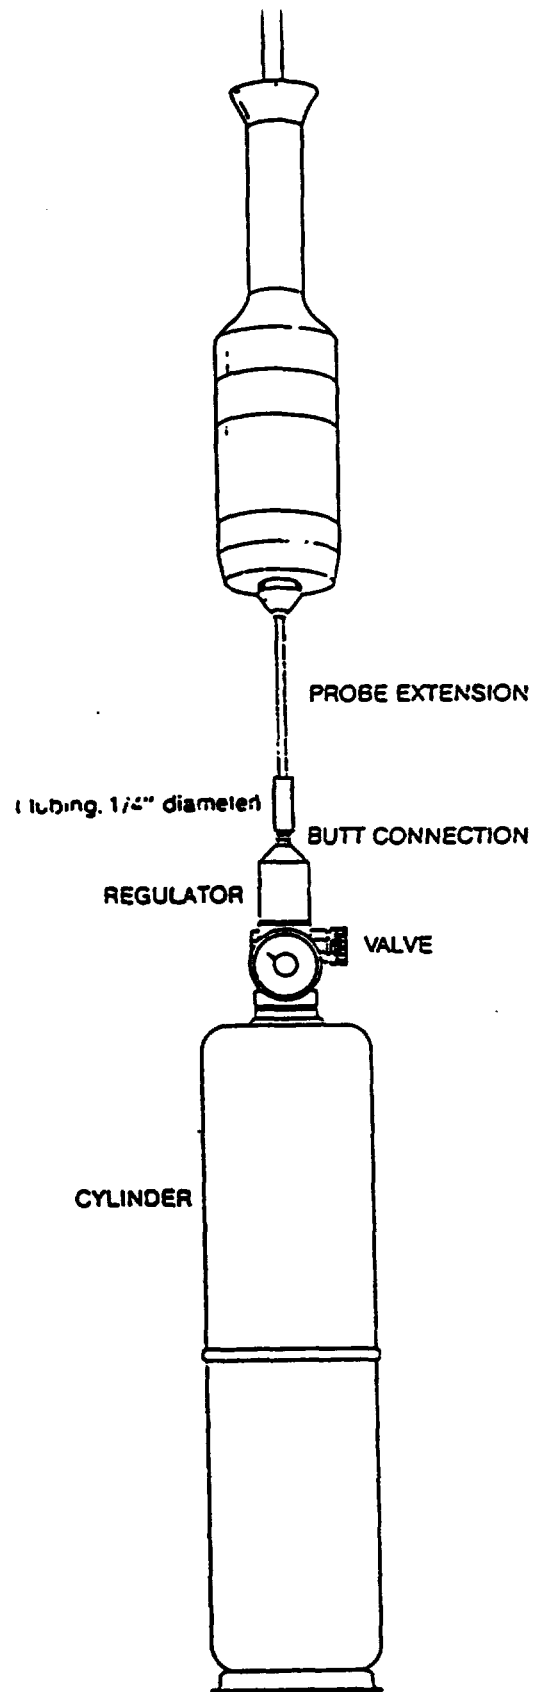

FIGURE 8-1
- a. Connect the analyzer to the regulator and cylinder with a short piece (butt connection) of tubing as shown in Figure 8-1. The calibration gas in the cylinder consists of a mixture of isobutylene and zero air. Isobutylene is nontoxic and safe to use in confined areas. There are no listed exposure levels at any concentration.